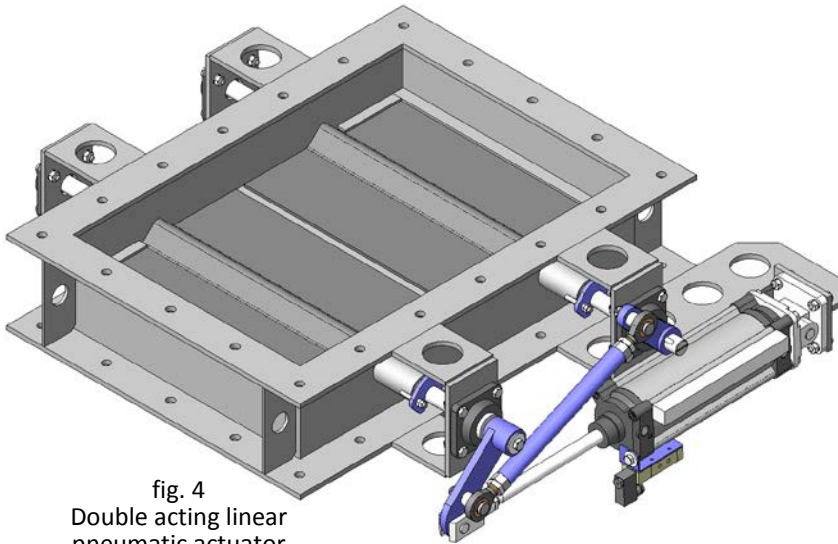

fig. 4
- There are also the linear pneumatic cylinders (fig. 4). This type of actuator is mounted on a rod on the actuator shaft in order to convert the linear movement generated by the cylinder into rotational movement and turn the louvres.